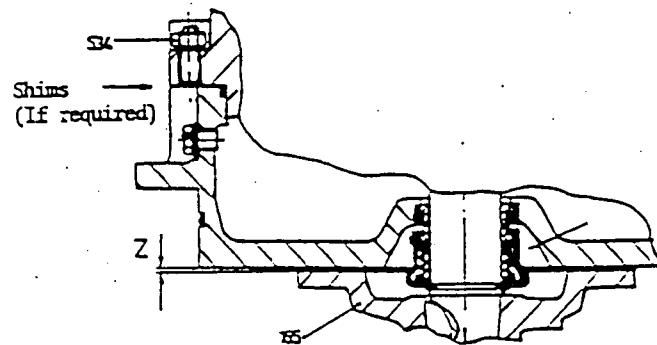

Figure 31
The impeller flange nut must be tightened to 12 mkp (90 ft-lbs) by using torque wrench. Bend over locking washer tab. Measure the clearance between the impeller flange (165) and the housing (507) with a feeler gauge. This clearance must be within the values given in the table below. If ever the clearance has to be adjusted, this can be done by inserting or revising shims between oil chamber casing (504) and seal chamber (507) close to fastening sets (534). See arrow, Figure 31.